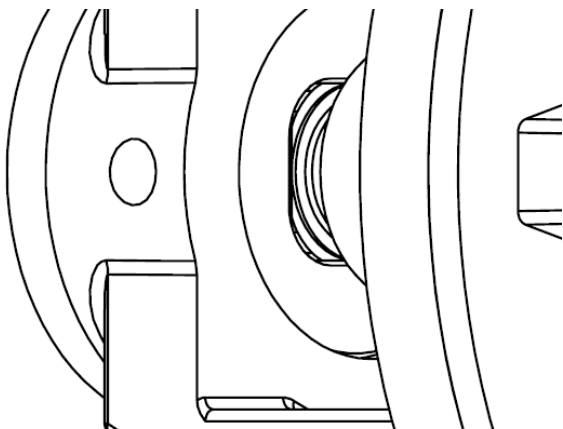

Figure 10
2. The stationary seal should be properly seated, as shown in figure 10, before continuing the assembly of the pump.